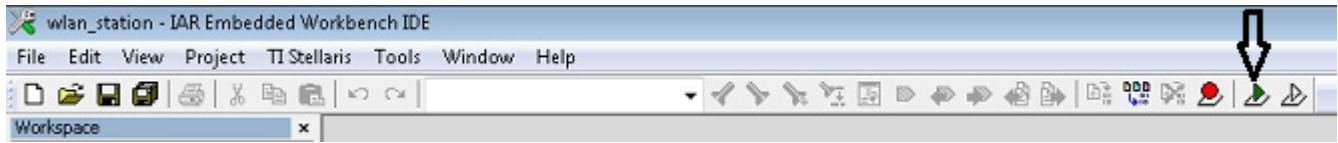

Figure 24. Debug Icon
9. Click the debug icon as shown in Figure 24 to download code to the device and start debugging. Select Debug>Go from the menu, or press F5 to begin execution.